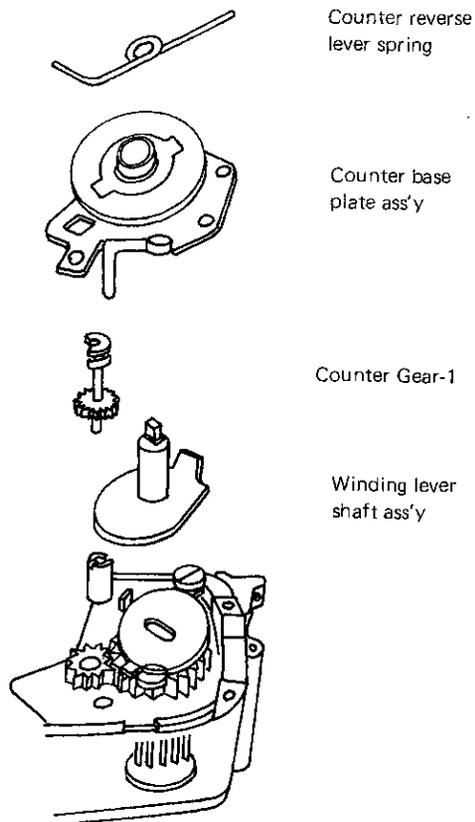

Fig. 7
- (1) Mount the winding base plate and the winding shaft.
- (2) Agree the convex part pulled by the winding lever shaft ass'y with the notched part made in the counter reverse lever at the back side of the body. See Fig. 7.
- (6) Turn the convex part at upper side of winding shaft ass'y one-half ( $1\frac{1}{2}$  time) to the counterclockwise to provide the spring with a restoring force, and set the winding shaft ass'y at the position just opposite to the notched part.
(7) Mount the winding lever shaft ass'y at the correct position referring to the counter base plate ass'y, and install the counter base plate ass'y so that the winding head can be limited by the counter base plate ass'y. See Fig. 7.